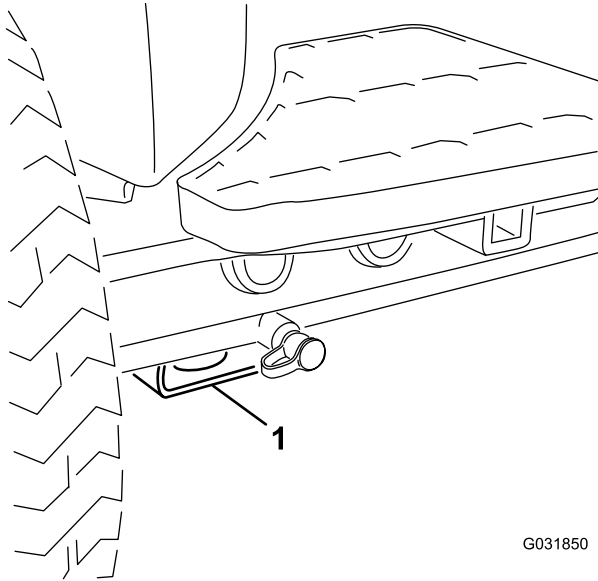

Figure 35
- Front—rectangular pad, under the axle tube, inside each front tire (Figure 35).